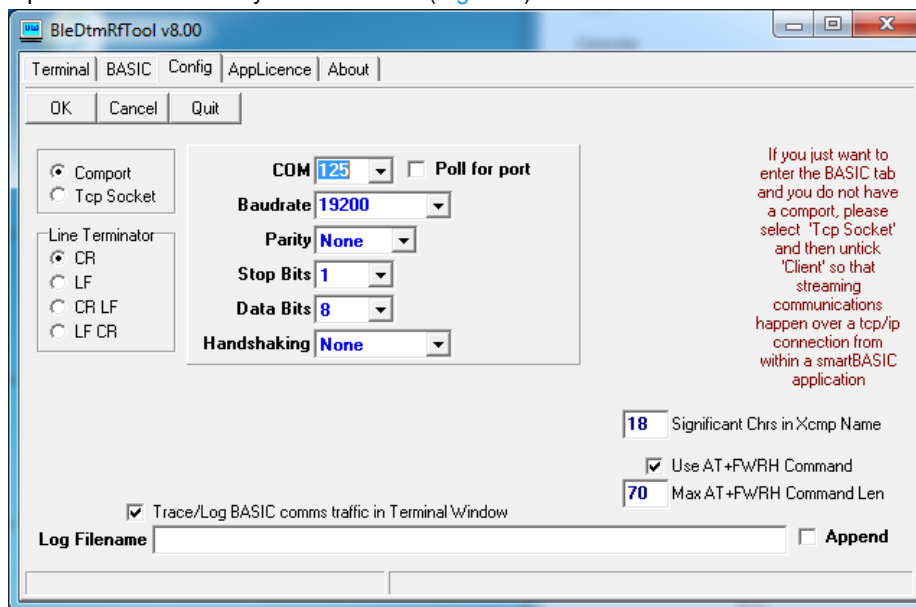

Figure 6: BleDtmRfTool UART communication settings
1. Open Laird Connectivity BleDtmRfTool (Figure 6).